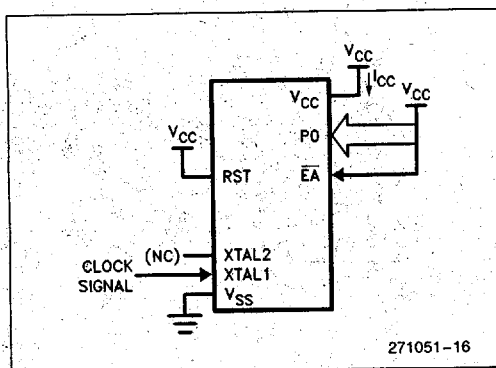

Figure 5. I_{CC} Test Condition, Active Mode.
5. I_{CC} is measured with all output pins disconnected; XTAL1 driven with TCLCH, $TCHCL = 5ns$, $V_{IL} = V_{SS} + .5V$, $V_{IH} = V_{CC} - 0.5V$ measured with EA and RST connected to V_{CC} . "Idle" current is measured with EA and RST connected to V_{SS} . "Power Down" current is measured with XTAL1, EA and RST connected to V_{SS} . (See Figures 5 through 8 for a graphic representation of the I_{CC} test conditions.